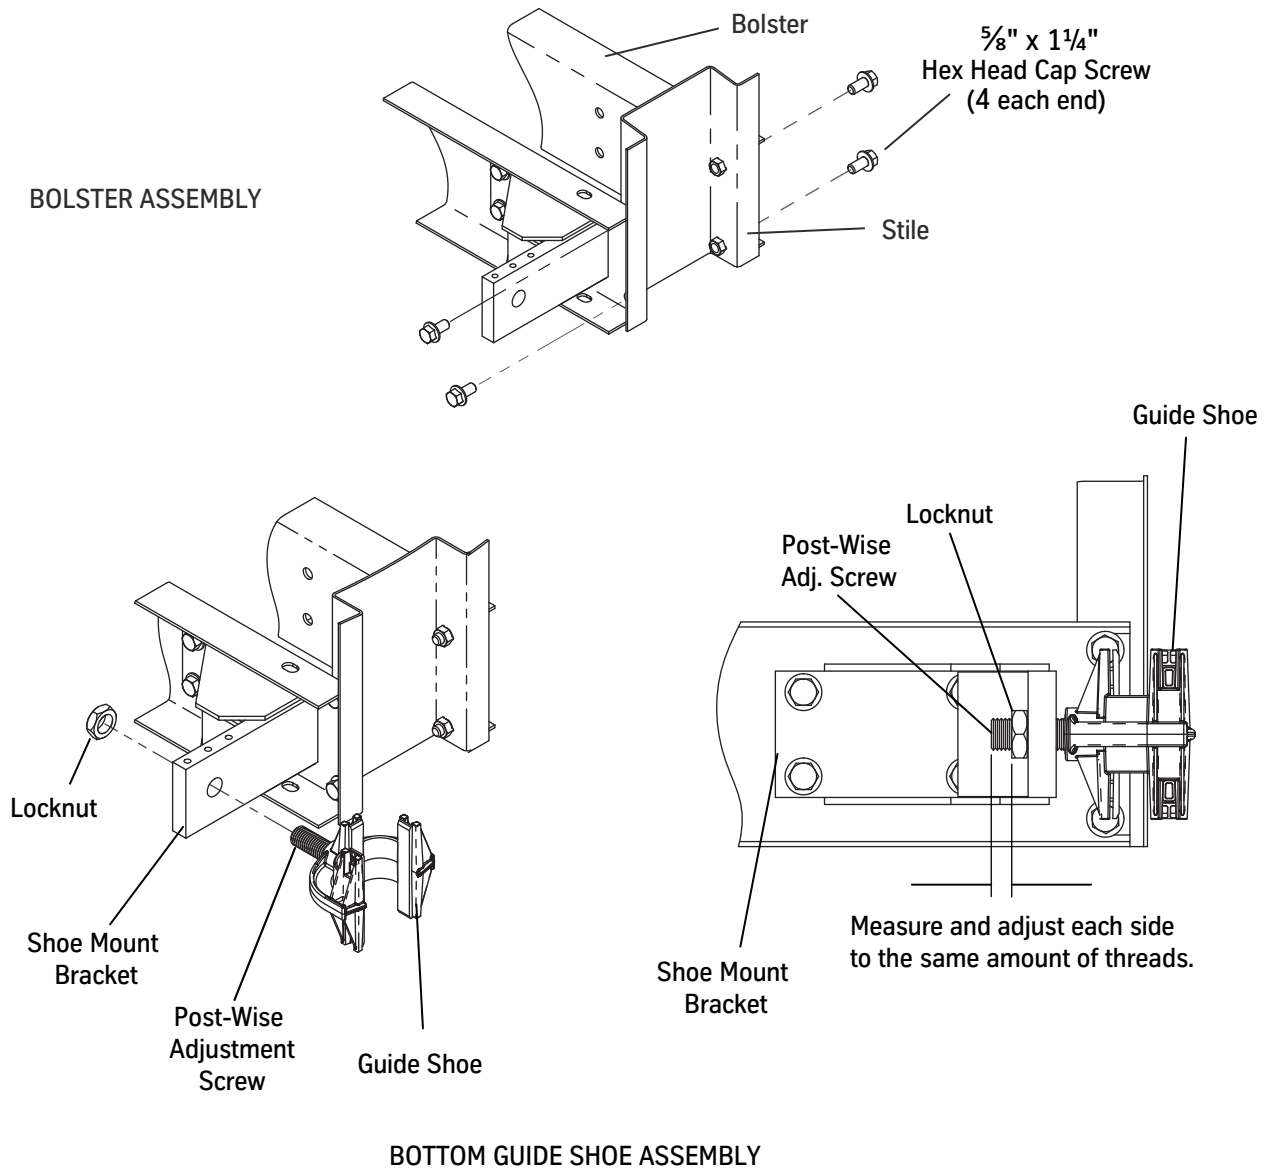

Figure 34 - Install Bolster Assembly and Bottom Guide Shoe
1. Snugly fasten the bolster assembly to the stiles. See Figure 34 on page 60.